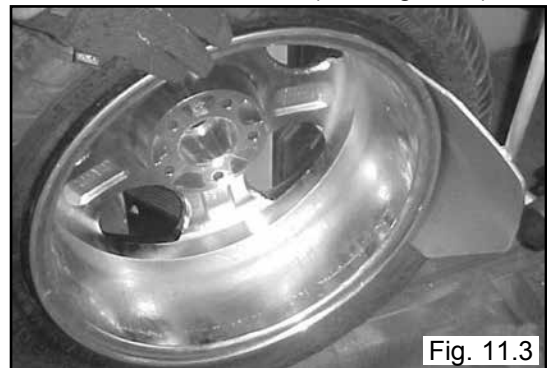

Fig. 11.3
7. Turn wheel around and repeat procedure on the other side of the wheel. This should be the long side of the drop center. It will be easier to clamp the wheel to the table top if the lower bead is loosened last. (See Fig. 11.3)